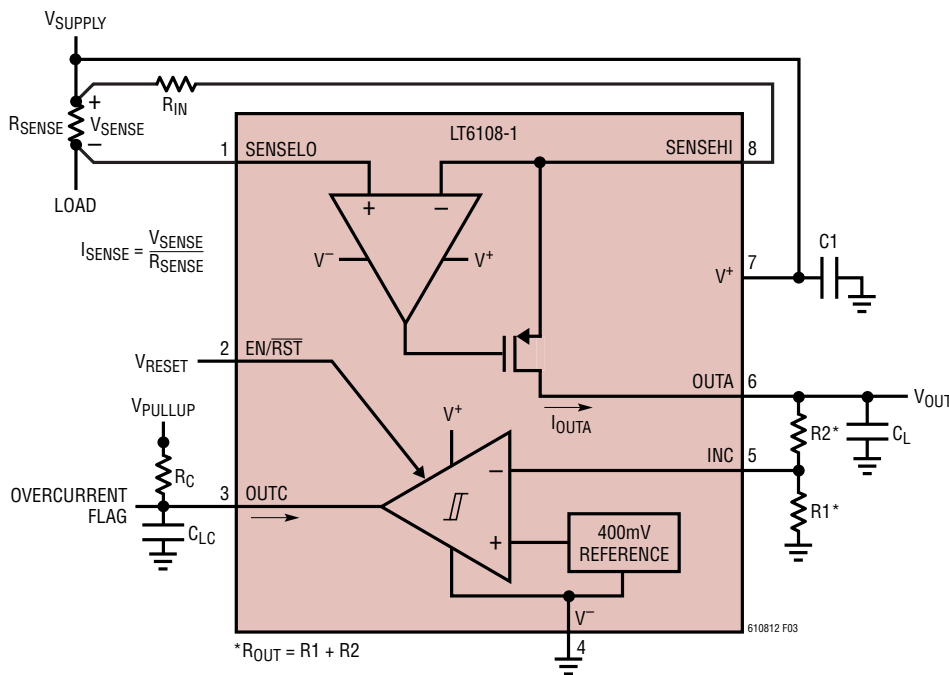

Figure 3. LT6108-1 Typical Connection
**TYPICAL PERFORMANCE CHARACTERISTICS** Performance characteristics taken at  $T_A = 25^\circ\text{C}$ ,  $V^+ = 12\text{V}$ ,  $V_{\text{PULLUP}} = V^+$ ,  $V_{\text{EN}} = V_{\text{EN/RST}} = 2.7\text{V}$ ,  $R_{\text{IN}} = 100\Omega$ ,  $R_{\text{OUT}} = R_1 + R_2 = 10\text{k}$ ,  $\text{gain} = 100$ ,  $R_C = 25.5\text{k}$ ,  $C_L = C_{\text{LC}} = 2\text{pF}$ , unless otherwise noted. (See Figure 3)
**TYPICAL PERFORMANCE CHARACTERISTICS** Performance characteristics taken at  $T_A = 25^\circ\text{C}$ ,  $V^+ = 12\text{V}$ ,  $V_{\text{PULLUP}} = V^+$ ,  $V_{\text{EN}} = V_{\text{EN/RST}} = 2.7\text{V}$ ,  $R_{\text{IN}} = 100\Omega$ ,  $R_{\text{OUT}} = R1 + R2 = 10\text{k}$ , gain = 100,  $R_C = 25.5\text{k}$ ,  $C_L = C_{LC} = 2\text{pF}$ , unless otherwise noted. (See Figure 3)
**TYPICAL PERFORMANCE CHARACTERISTICS** Performance characteristics taken at  $T_A = 25^\circ\text{C}$ ,  $V^+ = 12\text{V}$ ,  $V_{\text{PULLUP}} = V^+$ ,  $V_{\text{EN}} = V_{\text{EN}/\text{RST}} = 2.7\text{V}$ ,  $R_{\text{IN}} = 100\Omega$ ,  $R_{\text{OUT}} = R_1 + R_2 = 10\text{k}$ , gain = 100,  $R_C = 25.5\text{k}$ ,  $C_L = C_{\text{LC}} = 2\text{pF}$ , unless otherwise noted. (See Figure 3)
An internal sense amplifier loop forces SENSEHI to have the same potential as SENSELO as shown in Figure 3. Connecting an external resistor,  $R_{IN}$ , between SENSEHI and  $V_{SUPPLY}$  forces a potential,  $V_{SENSE}$ , across  $R_{IN}$ . A corresponding current,  $I_{OUTA}$ , equal to  $V_{SENSE}/R_{IN}$ , will flow through  $R_{IN}$ . The high impedance inputs of the sense amplifier do not load this current, so it will flow through an internal MOSFET to the output pin, OUTA.
where  $R_{OUT} = R_1 + R_2$  as shown in Figure 3.
Kelvin connection of the SENSEHI and SENSELO inputs to the sense resistor should be used in all but the lowest power applications. Solder connections and PC board interconnections that carry high currents can cause significant error in measurement due to their relatively large resistances. One 10mm  $\times$  10mm square trace of 1oz copper is approximately 0.5m $\Omega$ . A 1mV error can be caused by as little as 2A flowing through this small interconnect. This will cause a 1% error for a full-scale  $V_{SENSE}$  of 100mV. A 10A load current in the same interconnect will cause a 5% error for the same 100mV signal. By isolating the sense traces from the high current paths, this error can be reduced by orders of magnitude. A sense resistor with integrated Kelvin sense terminals will give the best results. Figure 3 illustrates the recommended method for connecting the SENSEHI and SENSELO pins to the sense resistor.